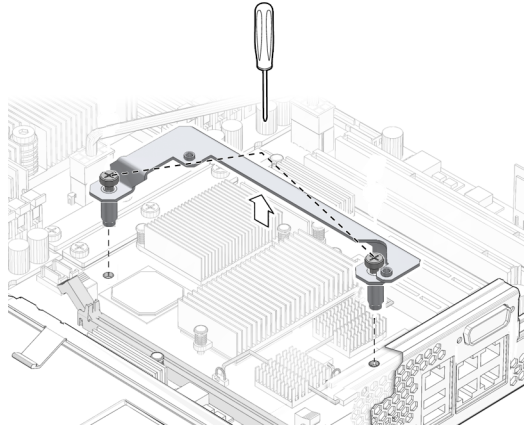

FIGURE 4-22 Removing the System Controller Bracket
3. Loose the two screws that secure the system controller bracket to the motherboard assembly (FIGURE 4-22).